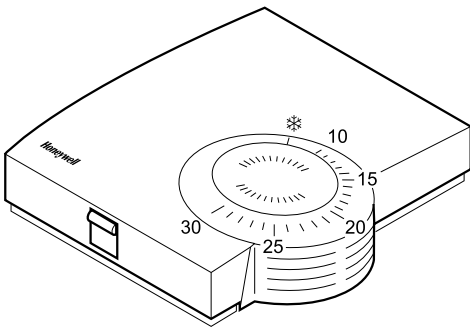

Fig. 14: Room unit HCW 80 (settings on the scale in °C)
- ▶ Select the desired room temperature set point at the adjustment dial (see Fig. 14).
- ▶ Check whether the adjustment dial is in the position shown in Fig. 14.